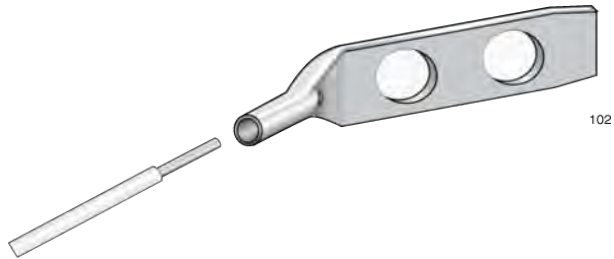

Figure 49. Attaching the Grounding Wire to the Grounding Lug
3. Insert one end of the grounding wire into the grounding lug, as shown in Figure 49, and use a crimping tool to secure the wire to the grounding lug.